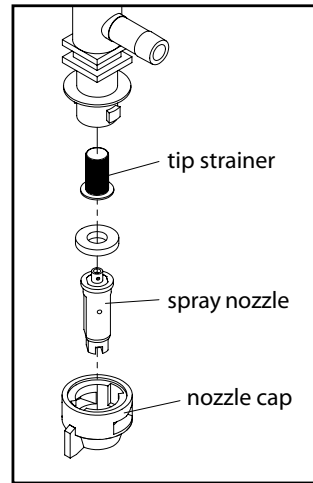

Figure 2: Nozzle breakdown
3. Tip strainers should be taken out and rinsed on a regular basis. Tip strainers are the small screens located behind each spray nozzle on the boom (Figure 2).